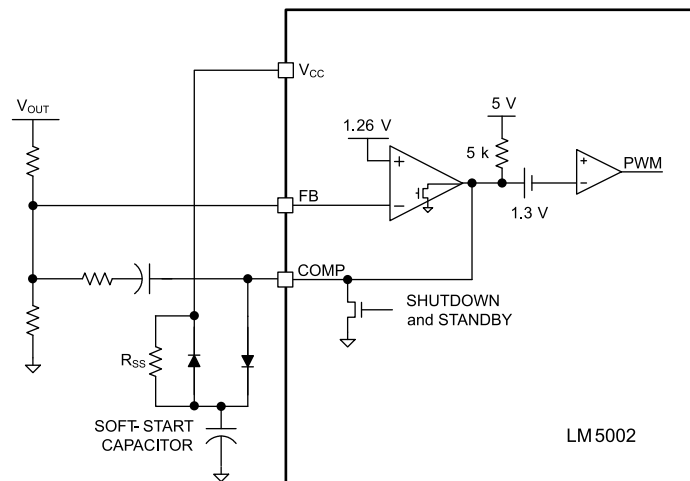

FIG 8-4. Soft-Start Circuit
Internal thermal shutdown circuitry is provided to protect the IC in the event the maximum junction temperature is exceeded. When the 165°C junction temperature threshold is reached, the regulator is forced into a low power standby state, disabling all functions except the VCC regulator. Thermal hysteresis allows the IC to cool down before it is re-enabled. Note that because the VCC regulator remains functional during this period, the soft-start circuit shown in 図 8-4 must be augmented if soft start from thermal shutdown state is required.
Soft start (SS) can be implemented with an external capacitor connected to COMP through a diode as shown in FIG 8-4. The COMP discharge MOSFET conducts during Shutdown and Standby modes to keep the COMP voltage below the PWM offset (1.3 V), which inhibits PWM pulses. The error amplifier attempts to raise the COMP voltage after the EN pin exceeds the 1.26 V standby threshold. Because the error amplifier output can only sink current, the internal COMP pullup resistor (approximately 5 k Ω) supplies the charging current to the SS capacitor. The SS capacitor causes the COMP voltage to gradually increase until the output voltage achieves regulation and FB assumes control of the COMP and the PWM duty cycle. The SS capacitor continues charging through a large resistance, R_{SS} , preventing the SS circuit from interfering with the normal error amplifier function. During shutdown, the VCC diode discharges the SS capacitor.